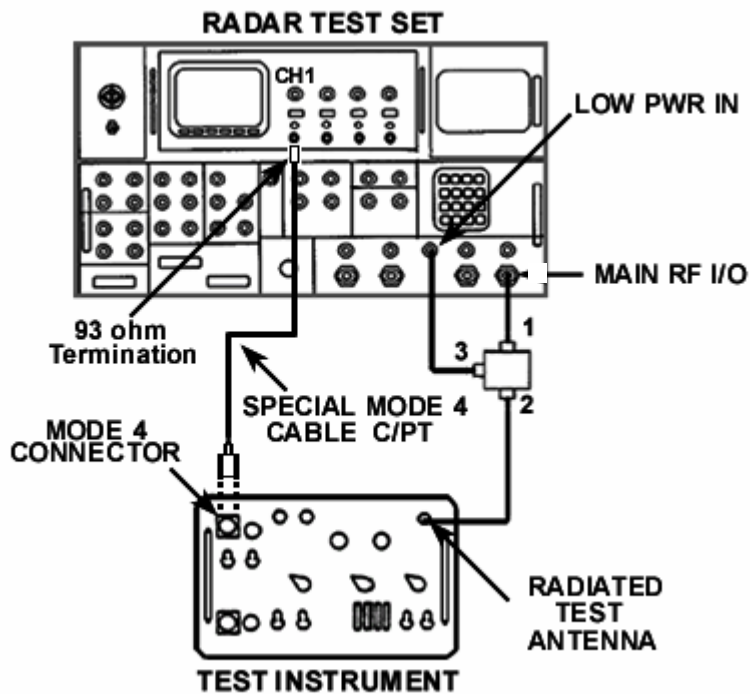

Figure 5. MODE 4 pretrigger – equipment setup.
(1) Connect equipment as shown in figure 5.